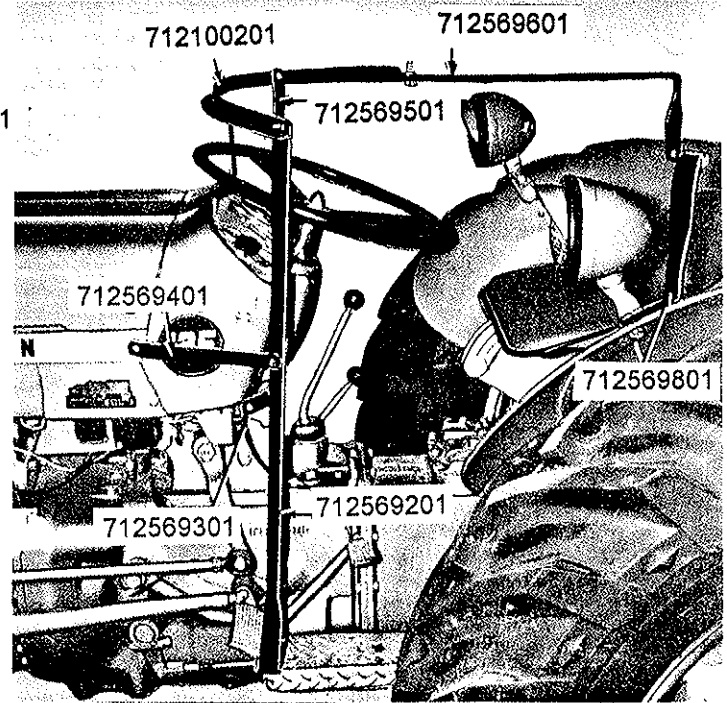

Figure 2
1. Bolt #712569201 door post to left step using 5/16" x 1" hex head bolt and nut. Bolt front edge of #712569401 hood brace to tractor using 1/4" x 1 hex head bolt and nut. See Figure 2.
2. Bolt #712569301 center brace to steering column under sheet metal using 7/16" x 3/4" bolt. See Figure 2.
4. Place cover over tractor sliding wide hem on left side over door post. Then slide #7121002001 yoke into hem at top of cover. Bolt #712569201 door post and right support yoke to yoke using 1/4" x 1" bolts and nuts. See Figure 2.
6. Bolt center brace and hood brace to door post using 5/16" x 1" bolt and nut. See Figure 2.
9. Remove bolt holding light on left fender and bolt #712569801 door latch under light bracket. See Figures 2 and 3.